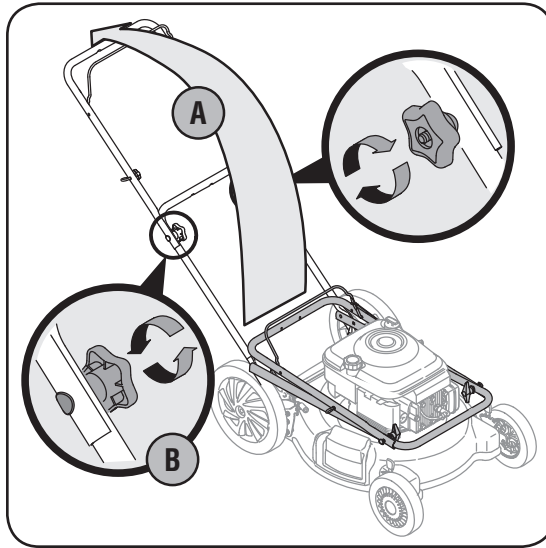

Figure 1
- a. Pull up and back on the upper handle to raise the handle from position A into the operating position B. See Figure 1.